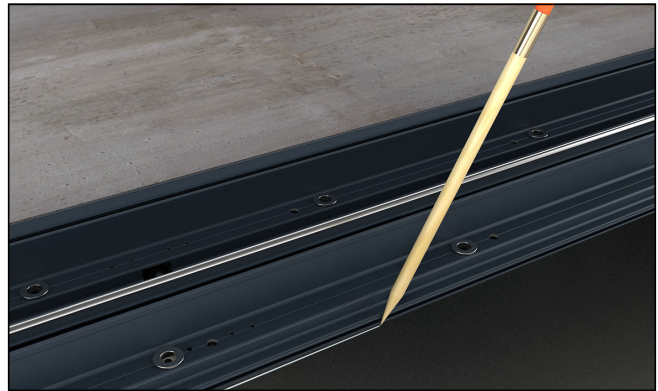

Figure 12
3. Mark the location of each end of the sill on the panning. Scribe a line the entire length on the interior side of the sill. See figure 12. Estimate the amount of shim space that will be under the sill (note this for the sill pan gasket installation later).